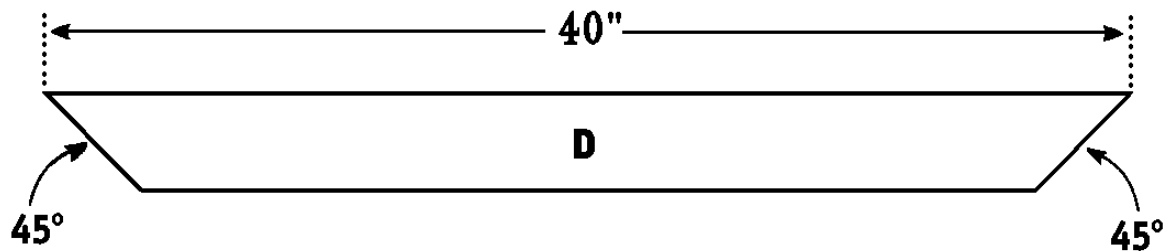
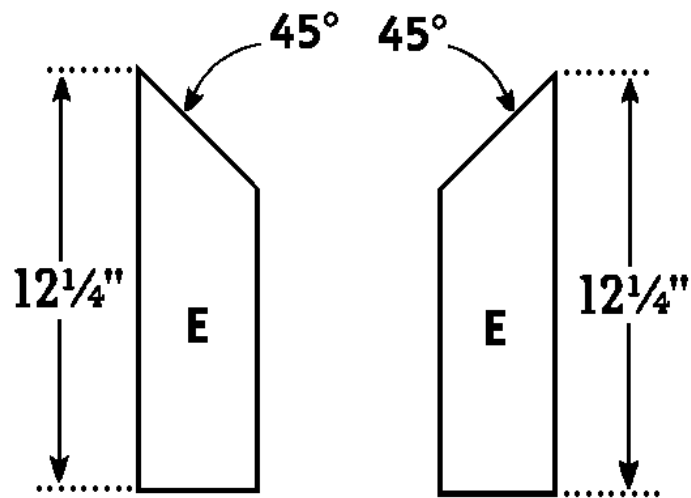

Figure 3
Figure 4
1. Cut one Front Trim (D) from 1 x 4 pine measuring 40 inches.
2. Miter each end of the Front Trim (D) at opposing 45-degree angles, as shown in *Figure 3*.
3. Cut two Side Trims (E) from 1 x 4 pine, each measuring 12-1/4 inches.
4. Miter one end of each of the Side Trims (E) at a 45-degree angle, as shown in *Figure 4*.